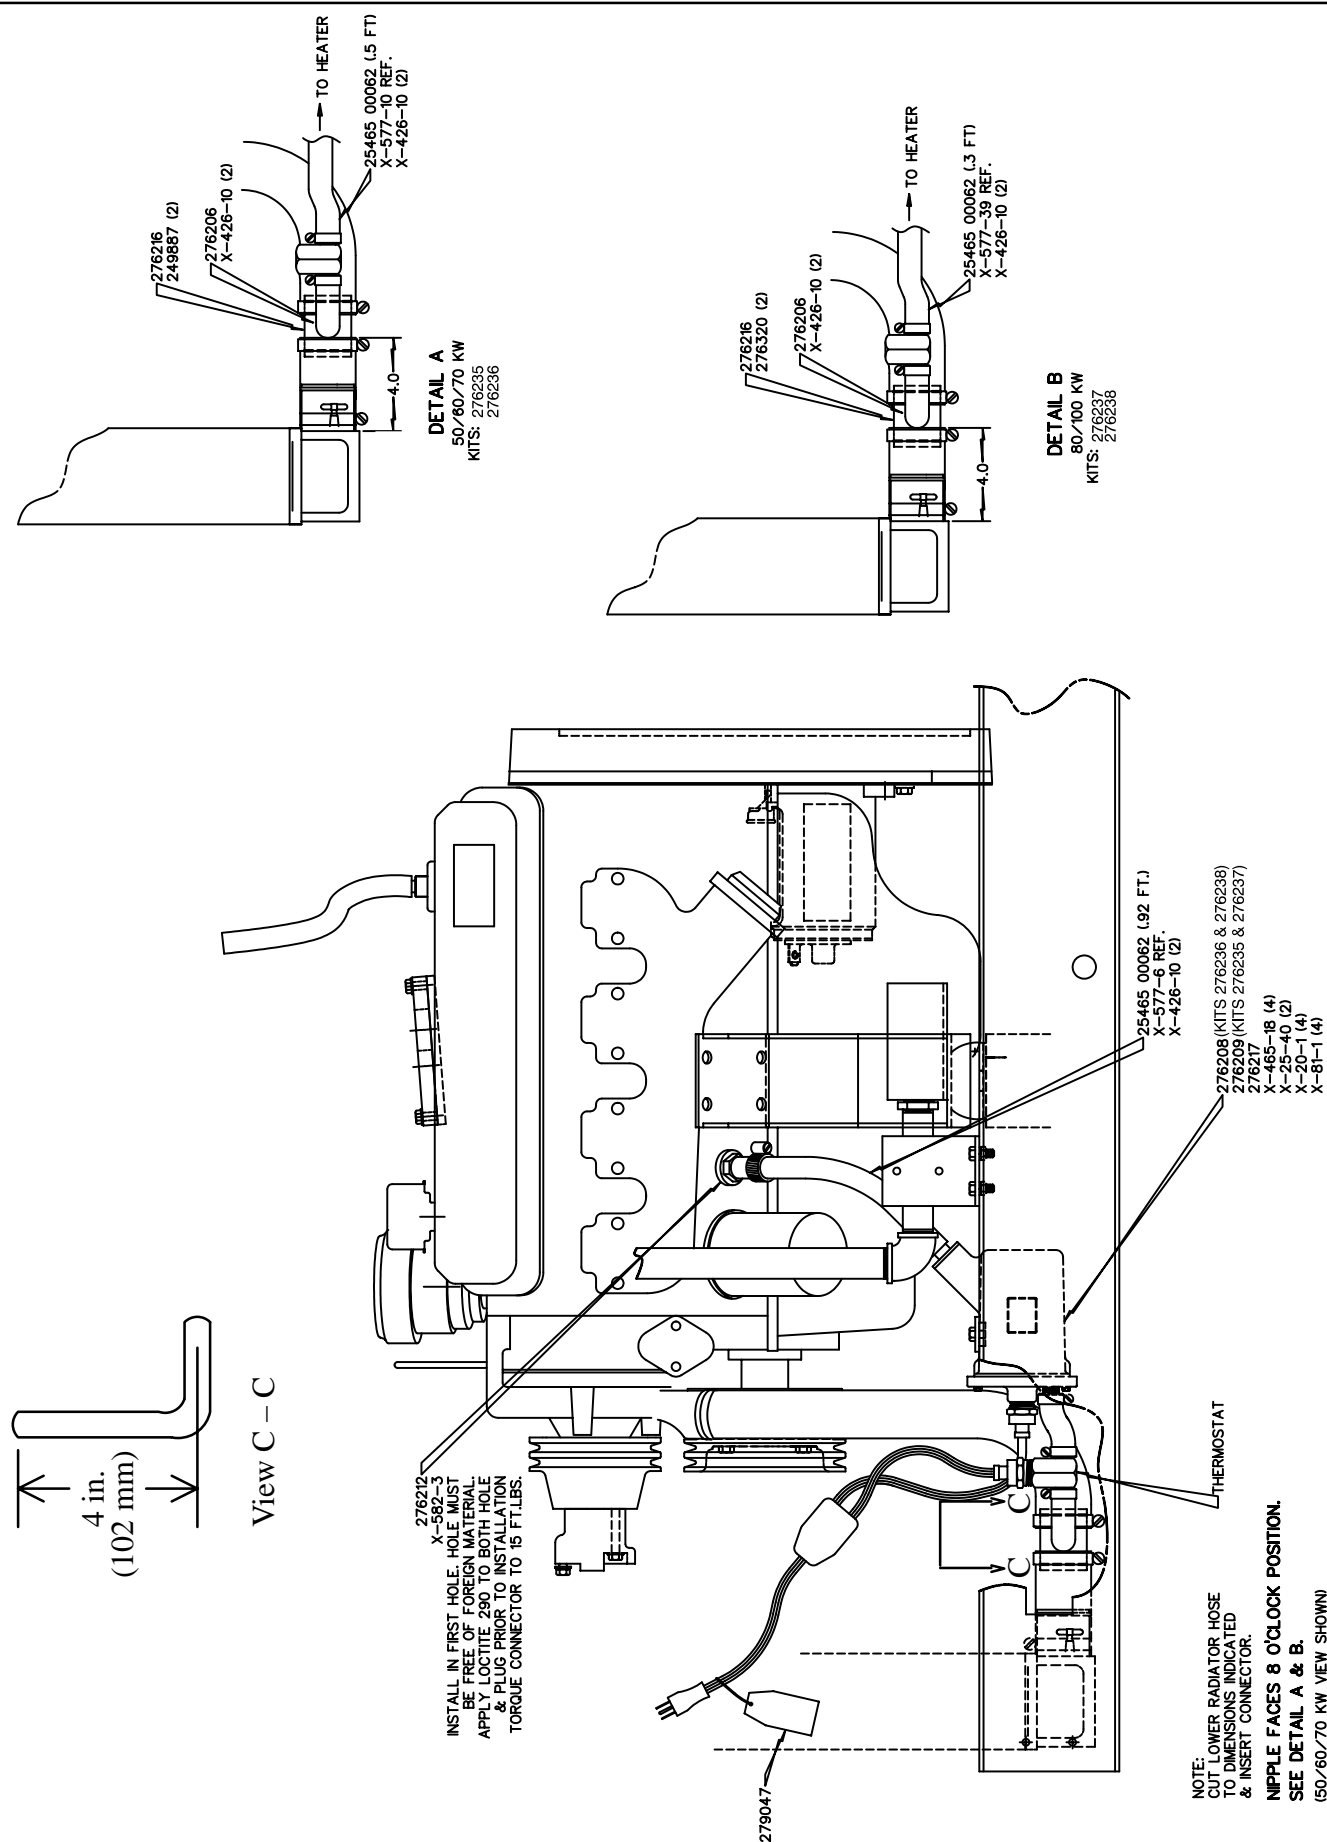

Figure 2. Block Heater Installation (Tank Type)
4. Apply pipe sealant to hose connector X-582-3 and install into freeze plug adapter on left side of engine. See Figure 2. Torque hose connector to 15 ft. lbs. (20 Nm).
9. Cut molded hose 276206, see Figure 2. Place hose clamps X-426-10 over each end of molded hose. Connect short end to tee hose connector and the other end to thermostat. Thermostat can be installed with either end toward radiator. Locate hose clamps 1/4 in. (6 mm) from end of hose and tighten.